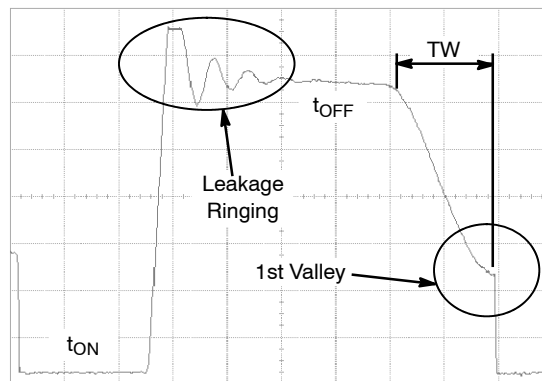
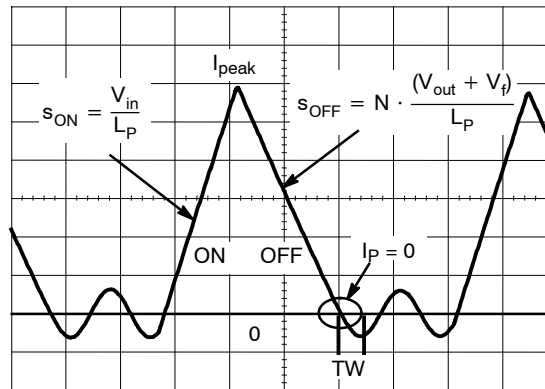

Figure 7. Typical Quasi-Resonance Waveform
Figure 8. Magnetizing Inductance Current Waveforms
Quasi-Resonance (QR) implies that the controller permanently monitors the transformer core flux activity and ensures Borderline Conduction Mode (BCM) operation. That is to say, when the switch closes, the current ramps up in the magnetizing inductance LP until it reaches a setpoint imposed by the feedback loop. At this point, the power switch opens and the energy transfers from the primary side to the secondary (isolated) portion. The secondary diode is now biased and the output voltage “flies back” to the primary side, now demagnetizing the primary inductance LP. When this current reaches zero, the transformer core is said to be “reset” (φ = 0). At this time, we can turn the MOSFET on again to create a new cycle. Figure 7 and 8 portray the typical waveforms with their associated captions. If a delay TW is introduced further to the core reset detection and before biasing the power MOSFET, the drain signal Vds(t) has the time to go through a minimum, also called valley. Therefore, when we will finally reactivate the power MOSFET, its drain-to-source voltage will be minimum, reducing capacitive losses but also its gate-charge value, since the Miller effect gets diminished at low Vds.
The D flip-flop output is high, the MOSFET is enhanced and current grows-up in the primary winding. This is the *on* portion of Figure 8, left side of the triangle. When the driver output went high, its rising edge triggered a 8 μs timer. This 8 μs timer provides a true frequency clamp by driving the D-input of the flip-flop. Now, when the peak current reaches the level imposed by the feedback loop, a reset occurs and the flip-flop output comes low.
As one can see from Figure 7, a parasitic ringing takes place at the switch opening: this is the leakage inductance contribution. Unfortunately, this leakage can be detected as a core reset event if no precaution is taken. This explains the presence of the 3  $\mu$ s blanking timer that prevents any restart before the completion of this circuit. After leakage, the voltage applied over the primary winding is an image of the output voltage: this is the flyback level, or plateau level, equal to  $N(V_{out} + V_f)$ , with N the turn ratio between the primary and the secondary,  $V_{out}$  the output voltage and  $V_f$  the secondary diode forward drop. We are on the right portion of Figure 8, OFF portion, the secondary current ramping down. If we now observe the voltage on the auxiliary winding, we will see something like what Figure 10 shows where the plateau lasts until the core is reset. At this reset event, a natural ringing takes place whose amplitude depends on the ratio N and  $V_{out}$ . A comparator observes this activity and detects when the voltage drops below ground, actually below 45 mV typically. In Figure 9, one can see the ESD protection arrangement which introduces a small capacitive component to Pin 3 input. This capacitive component associated with the demagnetization resistor can thus realize the necessary above TW delay.
Therefore, we can see that for various switching frequency values (dependent on the input condition if the output demand is fixed), the converter will permanently adjust the peak current  $I_p$  to keep the output power constant. By manipulating the slope definitions  $S_{ON}$  and  $S_{OFF}$  (see Figure 8), we can show that the peak current is defined by: